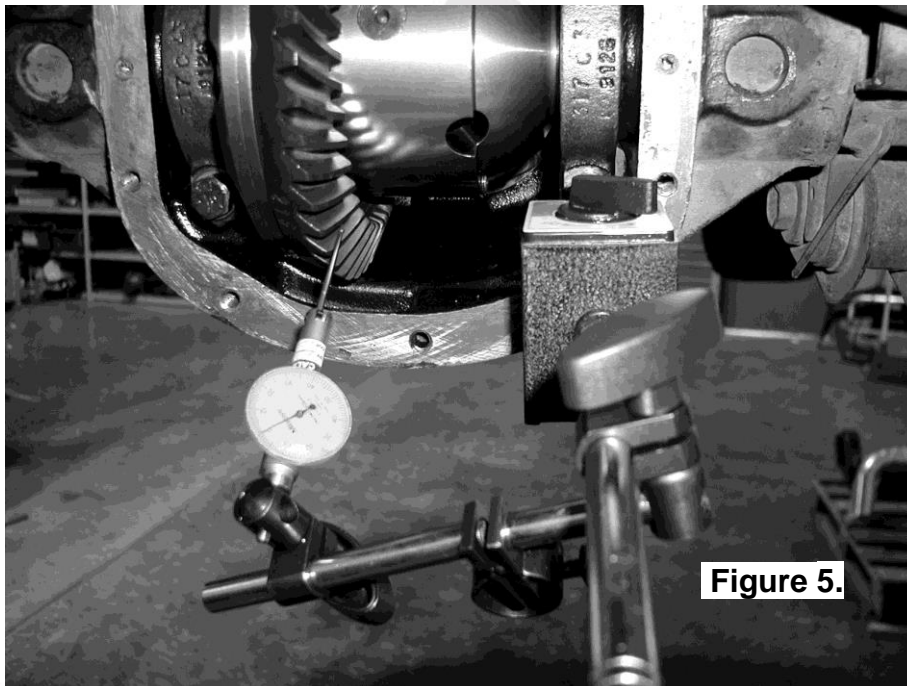

Figure 5.
- Set a depth indicator on one of the ring gear teeth as in Figure 5.